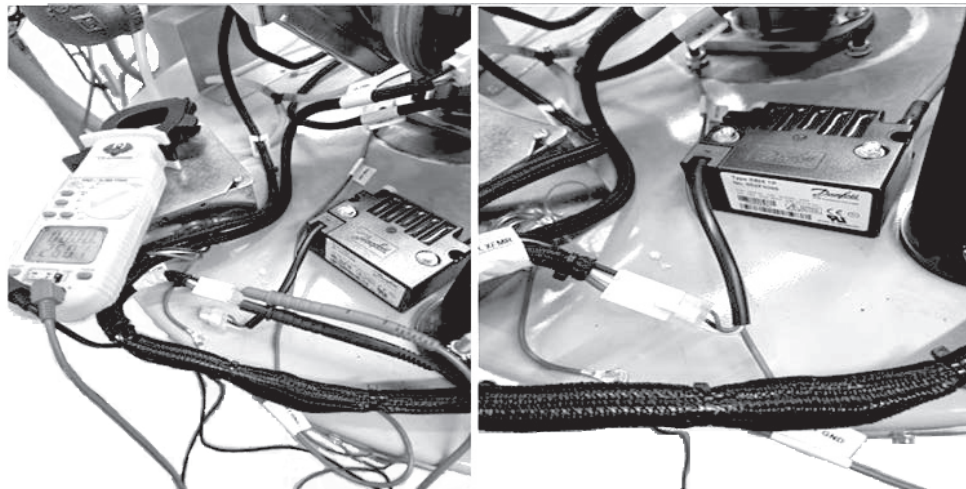

Figure 9. Measuring the Supply Voltage to the Transformer
3. Using a voltmeter, measure voltage to the transformer when the UIM indicates a call for ignition. Place red meter-lead to the black wire side of the connector and place the black meter-lead on the green wire side of the connector. See **Figure 9** for reference.